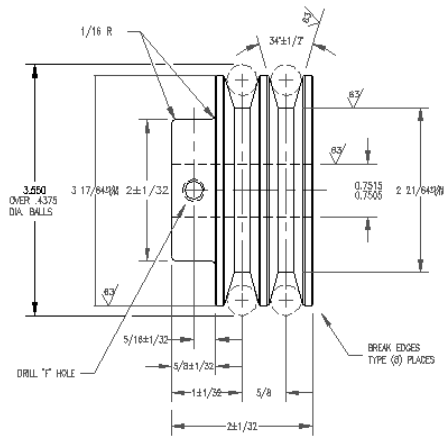

Figure 14-28: The pulleys with two leaders.
6. Save your drawing. It should look like Figure 14-28.